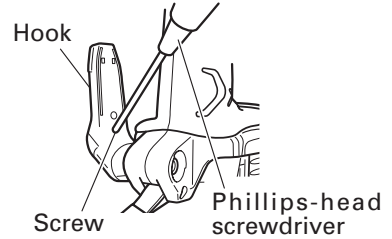

Fig. 12
- (1) Loosen the hook screw with a phillips-head screwdriver (No. 1). (Fig. 12)